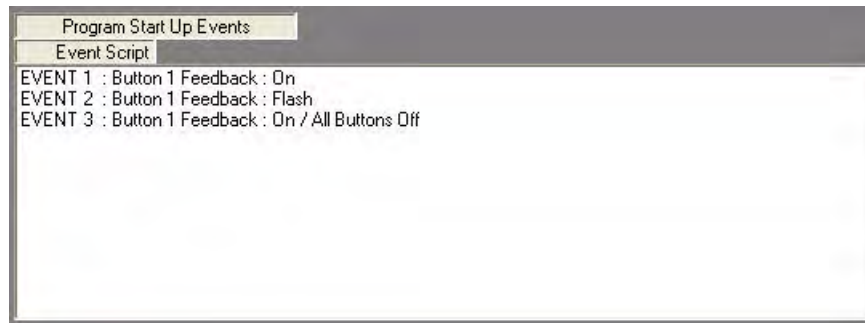

FIG. 86 Program Start Up Event Script
3. Add commands to the Event Script to define the functions that you want the ControlPad to perform on startup (FIG. 86).
- c. Add other button actions as desired to the Start Up (Event) script (FIG. 86).